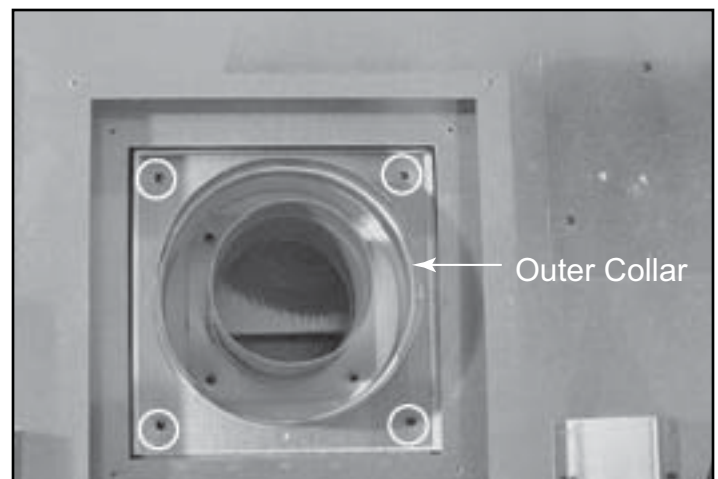

Figure 7.4 Remove Inner Cover Plate
- Remove four screws holding the outer collar to the appliance top. See Figure 7.4. Remove the outer collar.